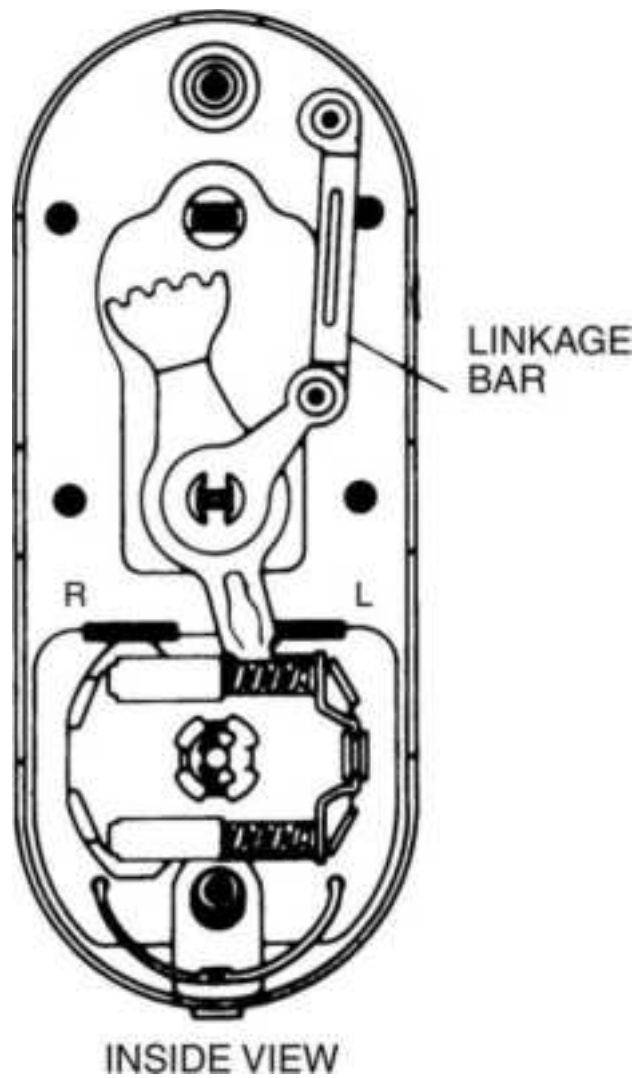

**Figure 13.83** Changing hand, Step 14.
14. Install the linkage bar (Fig. 13.83 ).